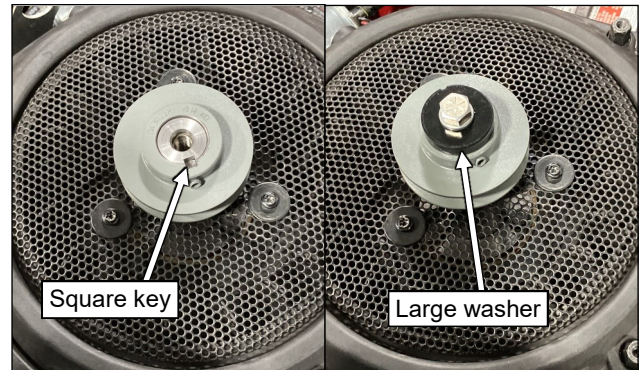

Fig. 1.7 (Install Pulley)
- 1.7 See fig. 1.7. Loosen the set screw on the pulley from the hardware box until it does not protrude into the slot. Place the machine key from the hardware kit into the slot in the stub shaft and slide the pulley over the shaft aligned to the key, then tighten the set screw. Secure the pulley with the large washer from the larger polybag from the hardware box, along with a 7/16" bolt and split lock washer. Torque the 7/16" bolt to 32 ft-lbs. (43.4 N-m).